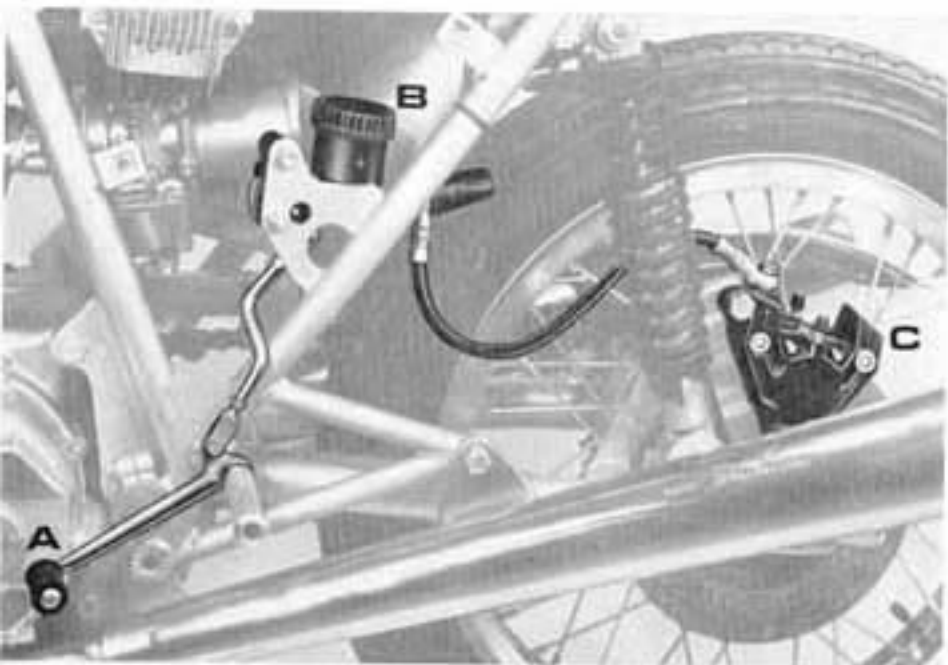

Fig 24
N.B. - These instructions are applicable to the 750/SS and 900/SS motorcycles 1975 model; anyway they are helpful also for 750/SS and 900/SS 1976 model keeping in mind that on these motorcycles the rear brake lever is on the right side and the gearchange lever is on the left side. Obviously in the last case speeds are reversed, viz: 1st gear down, while 2nd, 3rd, 4th and 5th are up. Fig. 24 shows the rear brake system in the 1975 model; you can see the A footlever, the B pump and the C caliper.